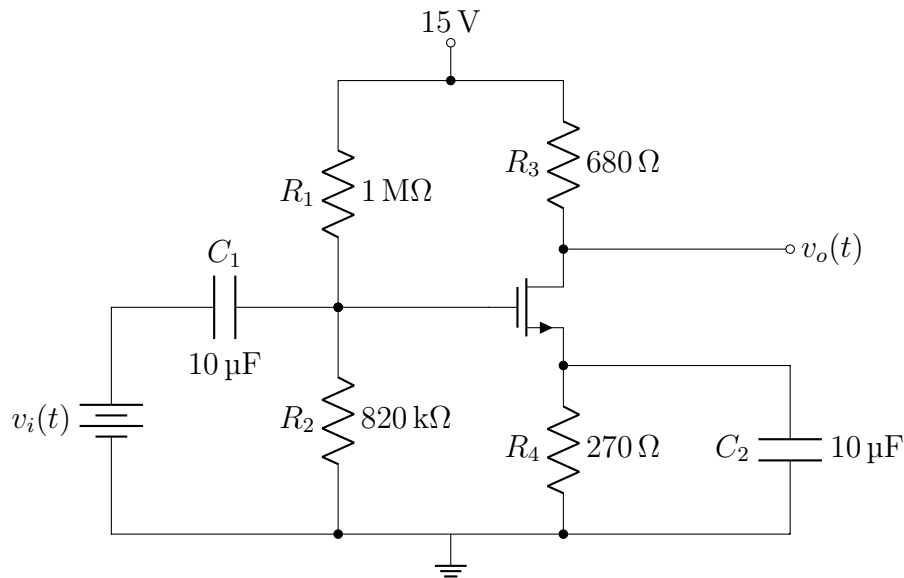

Figure 3: Circuit Used to Characterize MOSFET Amplifier Gain and Load Limits
1. Construct the circuit shown in Fig. 3 on a breadboard.